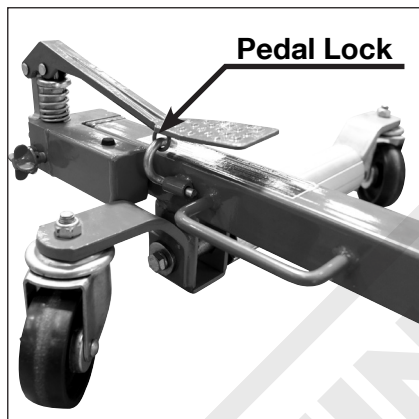

Figure 5
When not in use, locking the pedal tightly. Press the Foot Pedal all the way down, then swing the Pedal Lock Assembly (14) up and into the hole on the bottom of the foot pedal (see figure 5).